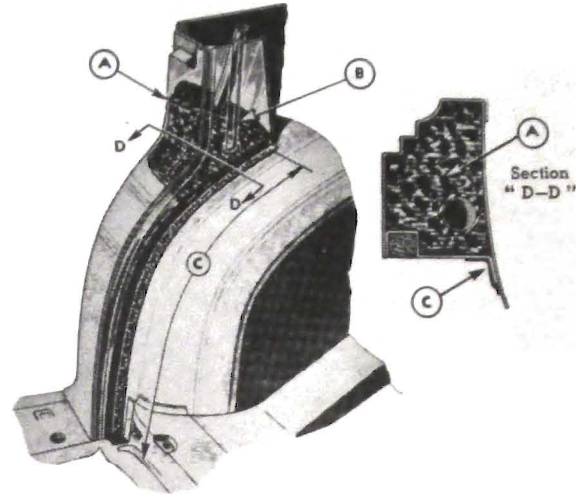

Fig. 1-128. Showing how rear body pillar on sedans is packed and taped against dust entrance.
- Fig. 1-128 shows the kickup section of
shown at "A", Fig. 1-128. Do not col- •